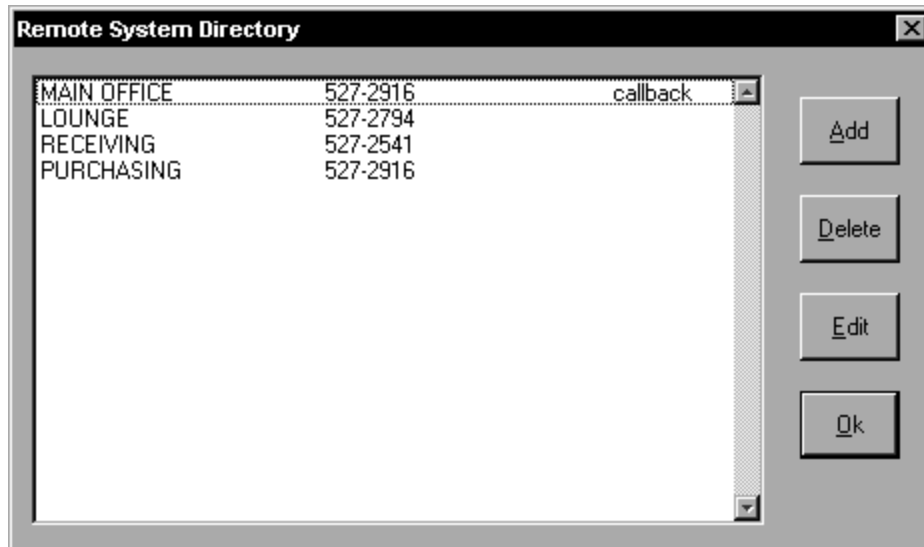

Figure 3-2. Remote System Directory
1. Highlight the entry and click on **<Edit>** (see refer to Figure 3-2). The Edit Directory Item Window (Figure 3-4) displays where changes can be made. Select **<OK>** to save the changes.